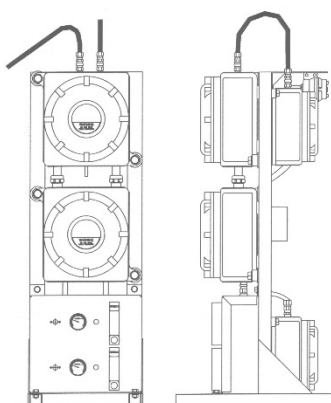

Figure 2: Drawing of an FPD Module with Temperature Controller Enclosure
- i. The introduction of a Temperature Controller Enclosure and a shorter frame to facilitate use with a Model 700 gas chromatograph, see Figure 2.